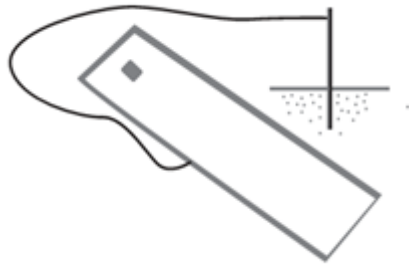

Figure 9 Module grounding circuit
4.1.3 The aluminum frame and support of the module must be grounded, as shown in Figure 9. Each